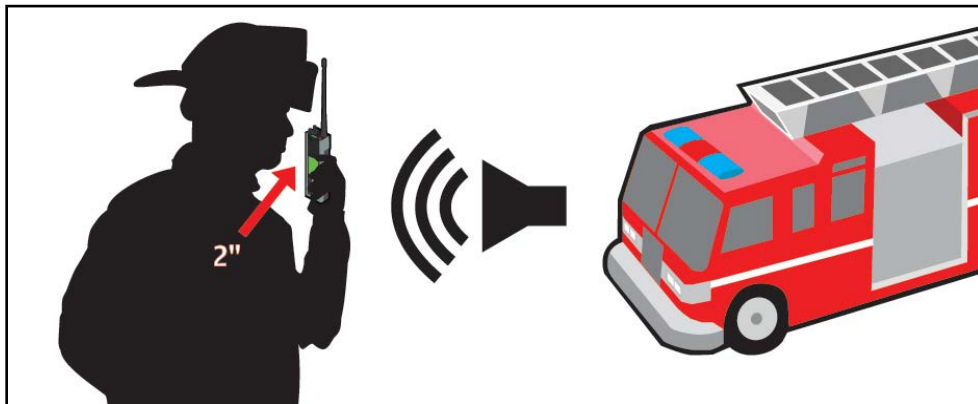

Figure 5-5: Using Noise Cancellation
- Talk within two (2) inches of the primary microphone (see Figure 5-5).